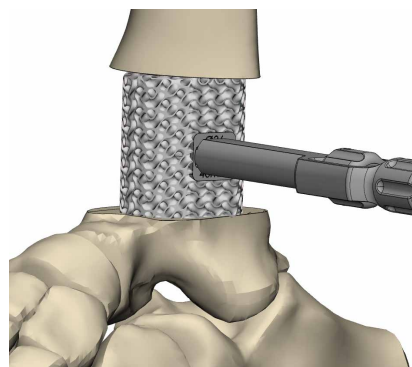

Fig. 11
11. Place the Ossera™ AFX into the surgical site such that the central hole of the Ossera™ AFX is aligned with the reamed tibial canal in the anterior and lateral views as verified under fluoroscopy. Use the inserter attached to the Ossera™ AFX to maintain implant position during nail insertion to minimize contact of the nail with the central hole of the Ossera™ AFX. (fig. 11).